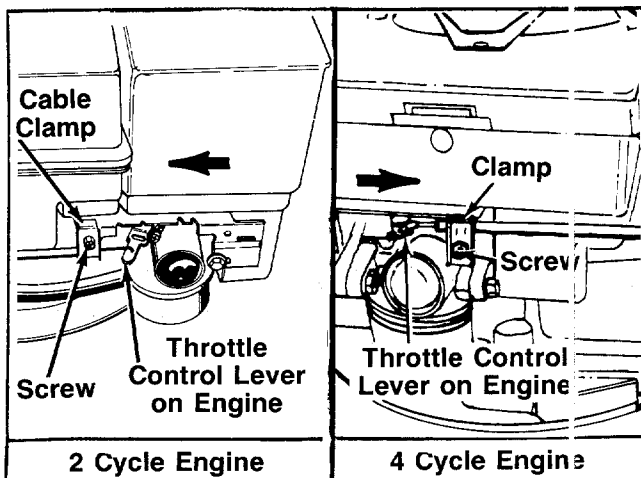

FIGURE 8.—Tecumseh Engines
2. The throttle control cable is attached to the upper handle. Route the throttle control cable under the lower handle and inside the handle mounting bracket. Hook the "Z" end of the throttle control cable into the control lever on the engine as shown in figure 8.
3. Loosen (do not remove) the screw on the cable clamp shown in figure 8. Slip the control casing under the clamp (cable must move freely beneath the clamp).